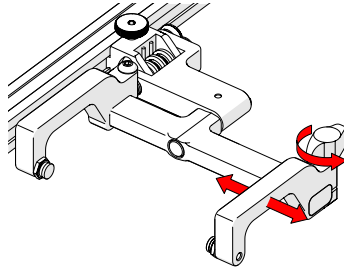

Fig. 115 - Arm adjustment
2. The probe holder arm adjustment knob can be rotated (Fig. 115), this allows placement of the HydroFORM™ by positioning the probe holder arm accordingly.